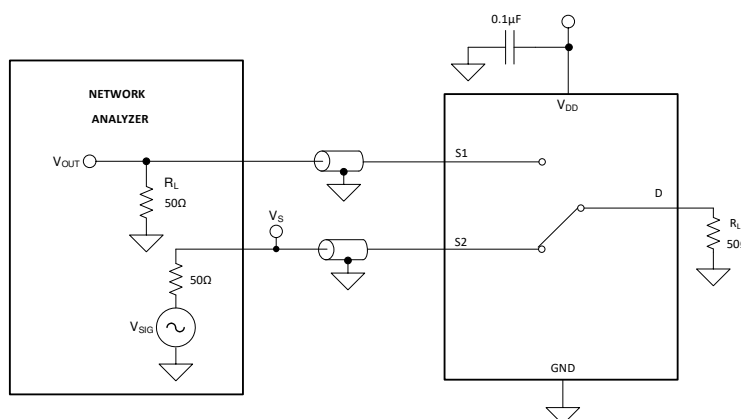

**Figure 7-7. Off Isolation Measurement Setup**
Off isolation is defined as the ratio of the signal at the drain pin (D) of the device when a signal is applied to the source pin (Sx) of an off-channel. Figure 7-7 shows the setup used to measure, and the equation used to calculate off isolation.